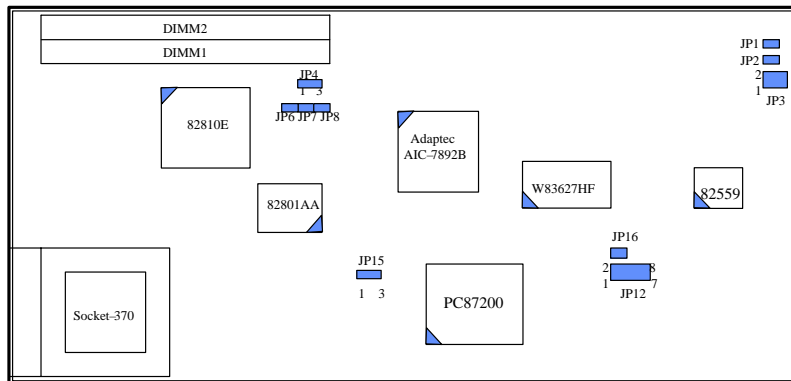

Figure 2-1: FalconRay+ Jumper Locations
In general, jumpers on the single board computer are used to select options for certain features. Some of the jumpers are designed to be user-configurable. Others are for testing purpose only and should not be altered. To select any option, cover the jumper cap over (Short) or remove (NC) it from the jumper pins according to the following instructions. NC stands for “**Not Connected**”. (Please refer to Figure 2-1 for jumper positions)